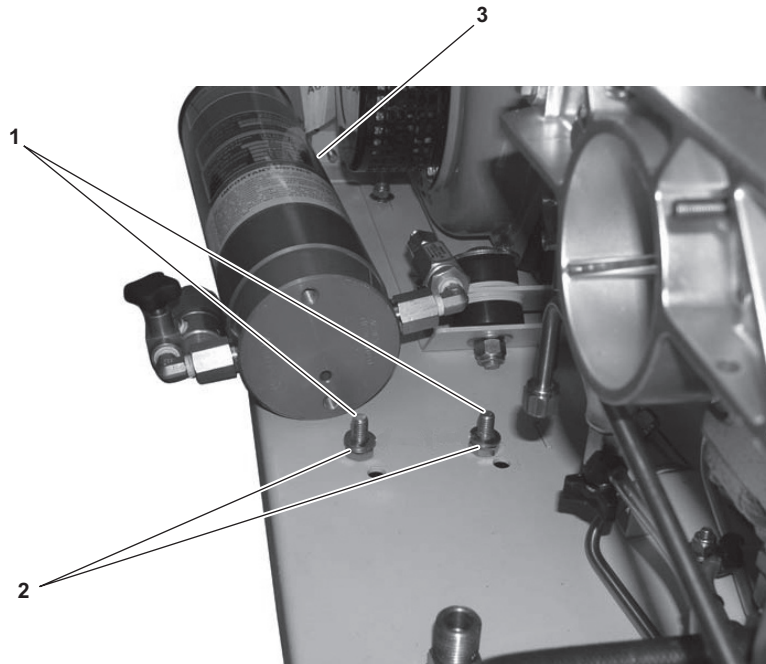

Figure 6-27. Bolts Securing P1 Purification Chamber to E-BAC/SS Base
- (6) Using a 11/16 inch socket on a drive ratchet underneath the E-BAC/SS base, tighten the bolts (figure 6-27, item 1) and washers (figure 6-27, item 2) to the corresponding threaded holes in the P1 purification chamber (figure 6-27, item 3). Tighten the bolts, turning CW until snug.